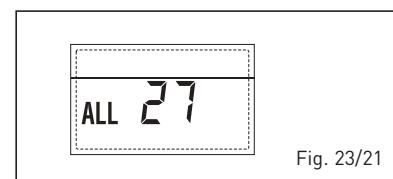

Fig. 23/21
– **ANOMALÍA COHERENCIA ENTRADA (S3) SÓLO POR SISTEMA 7 “ALL 28” (fig. 23/22)**